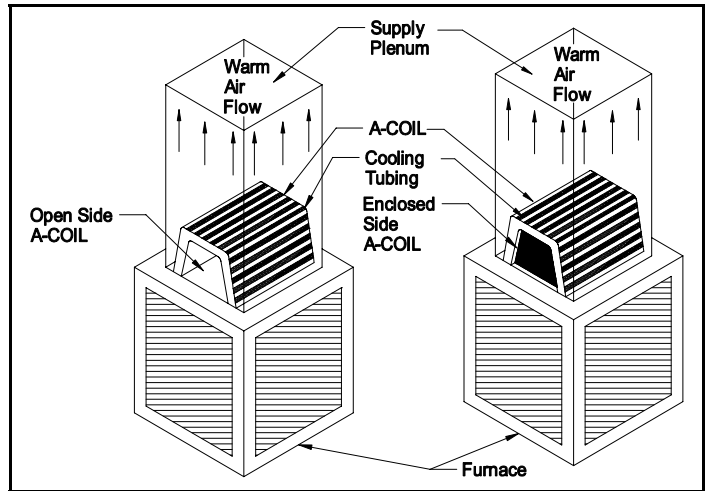
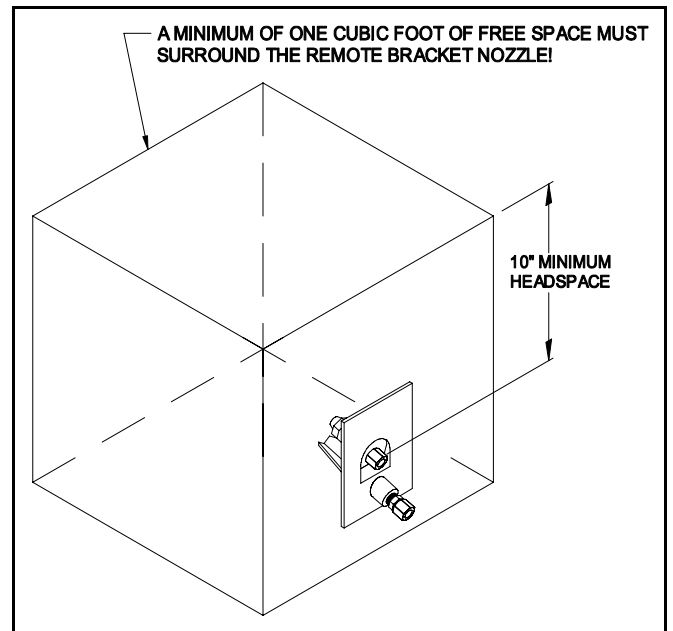
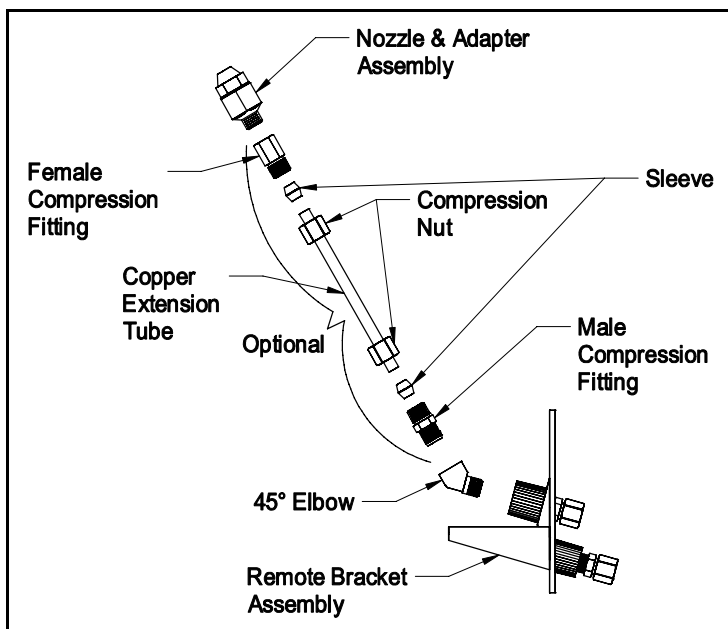

Figure 4
Figure 6
Figure 7
2. Determine the optimal location for the Housing Assembly (See Figures 1-3, 5 & 8 for typical installations) by locating the warmest part of the plenum (close to the outlet of the furnace) that will satisfy these minimum requirements: (a) 120°F minimum air flow temperature in the supply plenum, (b) 1 cubic foot minimum volume surrounding nozzle tip to prevent spray impingement on duct walls, or other obstacles. (See Figure 6) In certain installations, it may be necessary to further extend the nozzle using an optional Field Controls EK-1 Extender Kit. (See Figure 7) A 45° elbow fitting can also be installed to redirect the spray without extending the nozzle. If an air conditioning "A-COIL" with open sides exists at the furnace outlet, the Housing Assembly should be located in the area between the A-COIL and the furnace outlet. (See Figures 4, 5 & 8)